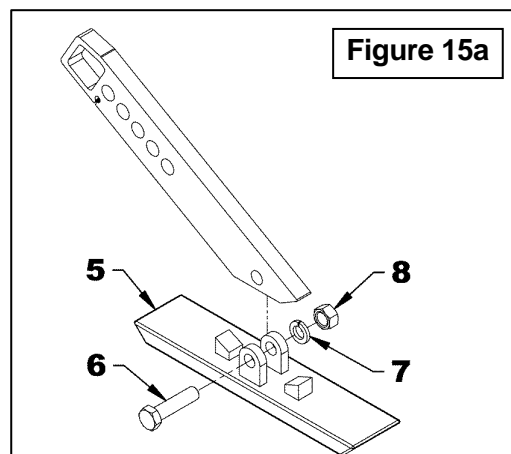

Figure 15a
4. **Figure 15a:** Remove the steel skid shoe base (item 5) by removing the 3/4"NC x 3" bolt, lockwasher and 3/4" nut (items 6-7-8).